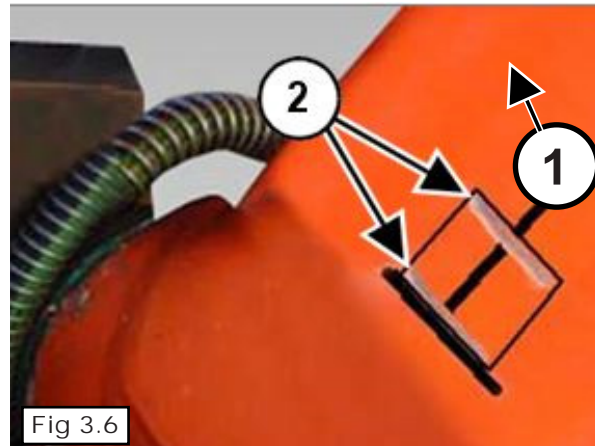

Fig 3.6
Locate the two twin clamps. Using one of the twin clamps, mark the shape (1) [Figure 3.6] of the base of the clamp at each of the previously marked positions on the dipper.
Using a sharp edged tool, scrape off paint at edges (2) [Figure 3.6] of marked areas to allow good contact to metal for welding of the hose clamp bases.